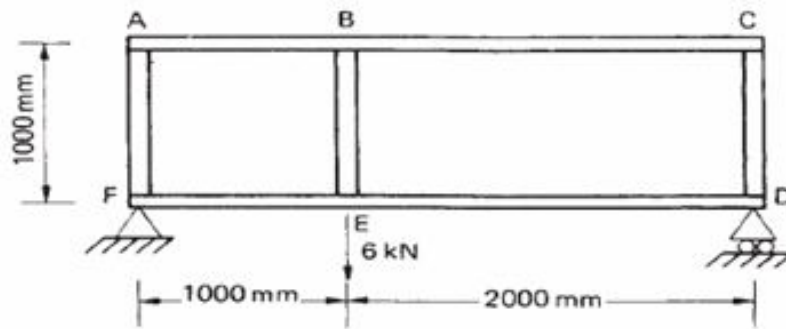

Figure 4
- (b) The beam shown in Figure 4 is simply supported at each end and carries a load of 6000 N . If all direct stresses are resisted by the flanges and stiffeners and the web panels are effective only in shear, calculate the distribution of axial load in the flange ABC and the stiffener BE and the shear flows in the panels. [BL: Understand | CO: 8 | Marks: 3]